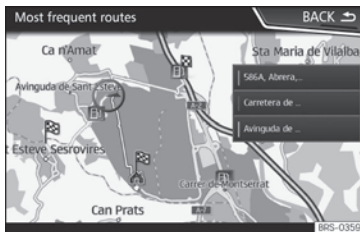

Fig. 169 Predictive navigation
- On the main screen of the Navigation menu, in the pop-up window, press the **FREQUENT ROUTES** button. To display frequently followed routes press the **Show on map** button >>> Fig. 169.